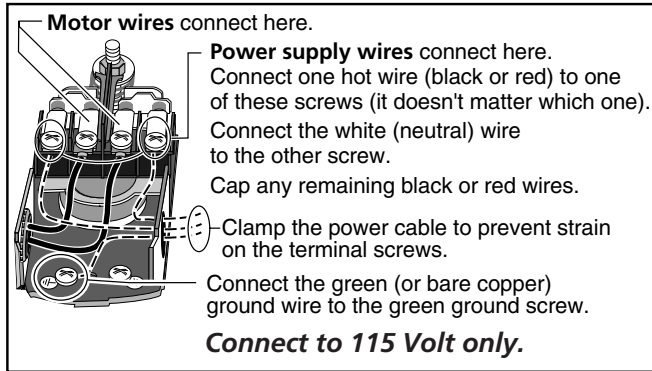

Figure 7 – Wiring Connections to 115 Volt Power Supply
Your Pressure Switch looks like one of those shown in Figure 7. Connect the power supply as shown for your type of switch.
1. Connect the ground wire first as shown in Figure 7. The ground wire must be a solid copper wire at least as large as the power supply wires.
4. Connect the power supply wires to the pressure switch as shown in Figure 7.